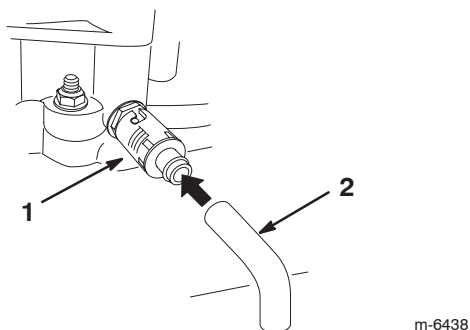

Figure 19
9. Rotate oil drain valve to allow oil to drain (Fig. 19).
11. Remove the drain hose (Fig. 19).